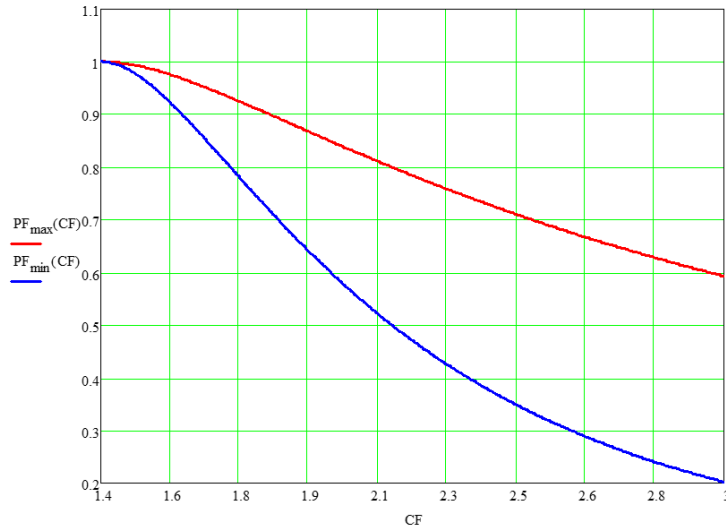

Figure 3-4 Relationship between PF and CF
According to the theory, Figure 3-4 shows the relationship between PF and CF.
- When Both is selected in CC (see section 3.4.6) and CP mode (see section 3.4.7), the CF and PF values need to be entered at the same time and their priority has to be set again in Both mode. If the setting is over the range shown in Figure 3-4, the Regenerative AC Electronic Load will automatically modify the user-defined range to a valid range. A further illustration is shown in the following 2 examples.